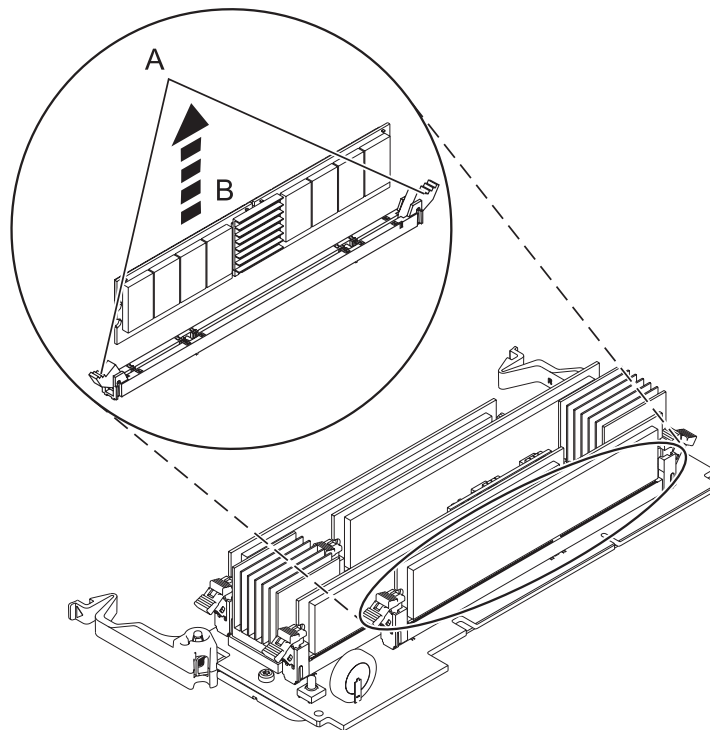

Figure 10. Removing a memory module
11. Remove the memory module as follows. Unlock the memory module by pushing the locking tabs (A) open, as shown in Figure 10. Lift the memory module (B) out of the connector. The lever action of the tabs forces the memory module out of the connector.